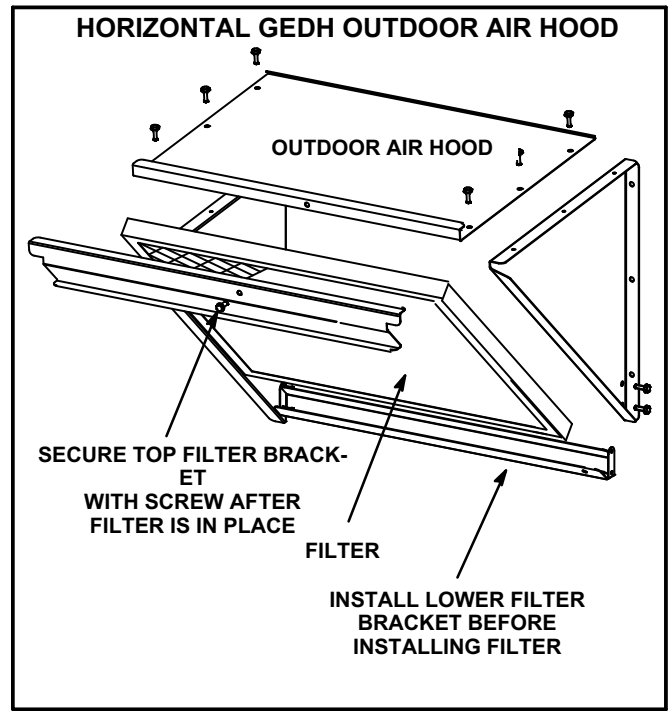

FIGURE 13
- 7- Install the upper hood on the unit as shown in figure 13.